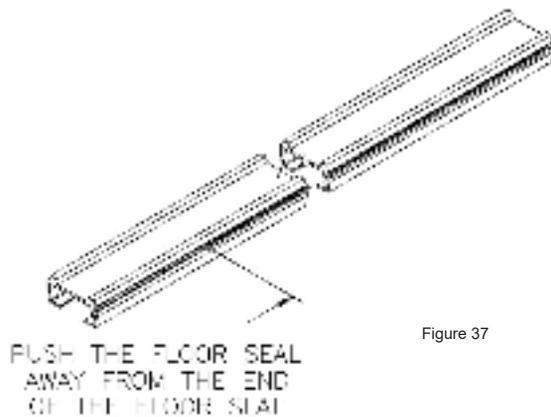

Figure 37
- b. Slide the loose end of the floor seal away from the end of the slat as far as possible (Figure 37).